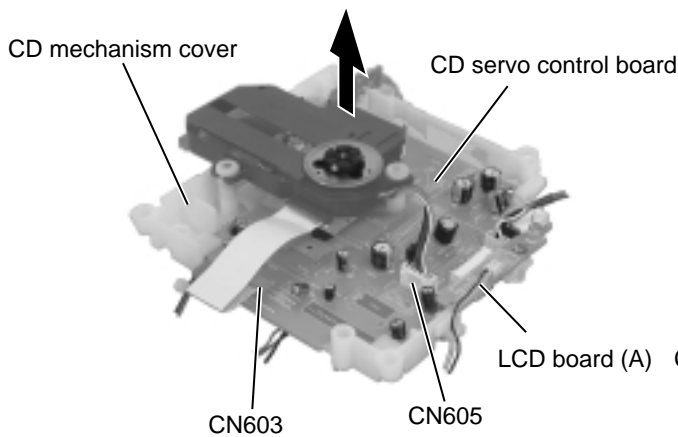

Fig.21
**■ Removing the LED board (A) (See Fig.21)**
1. Remove the screw O attaching the LED board (A).